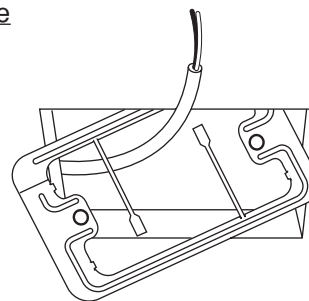

Fig. 7-19
- (1) Remove the cover plate by inserting a standard (minus) screwdriver into the notch in the lower section and prying it off.
- (2) Cut out a section (3-3/4 x 2-1/32 in.) on the ceiling using the paper pattern (supplied) as a guide.
- (3) Run the wire through the mounting carrier and insert into the installation hole as shown in Fig. 7-19.